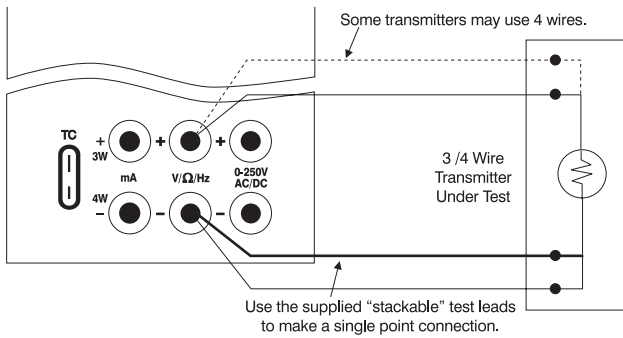

Figure 10.
1. As described previously in section F the PCL1000 can source resistance in a RTD Transmitter or measuring device. In many cases the unit under test will require a 3 or 4 wire connection to achieve best accuracy. Refer to Figure 10 for connection information.